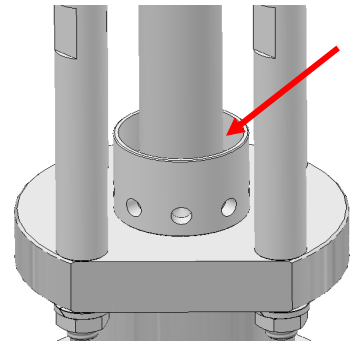

Figure 1. Solvent Cup on Pump
13. Fill solvent cups with ISO Oil (TSL-ISO-800) or equivalent (see Figure 1).